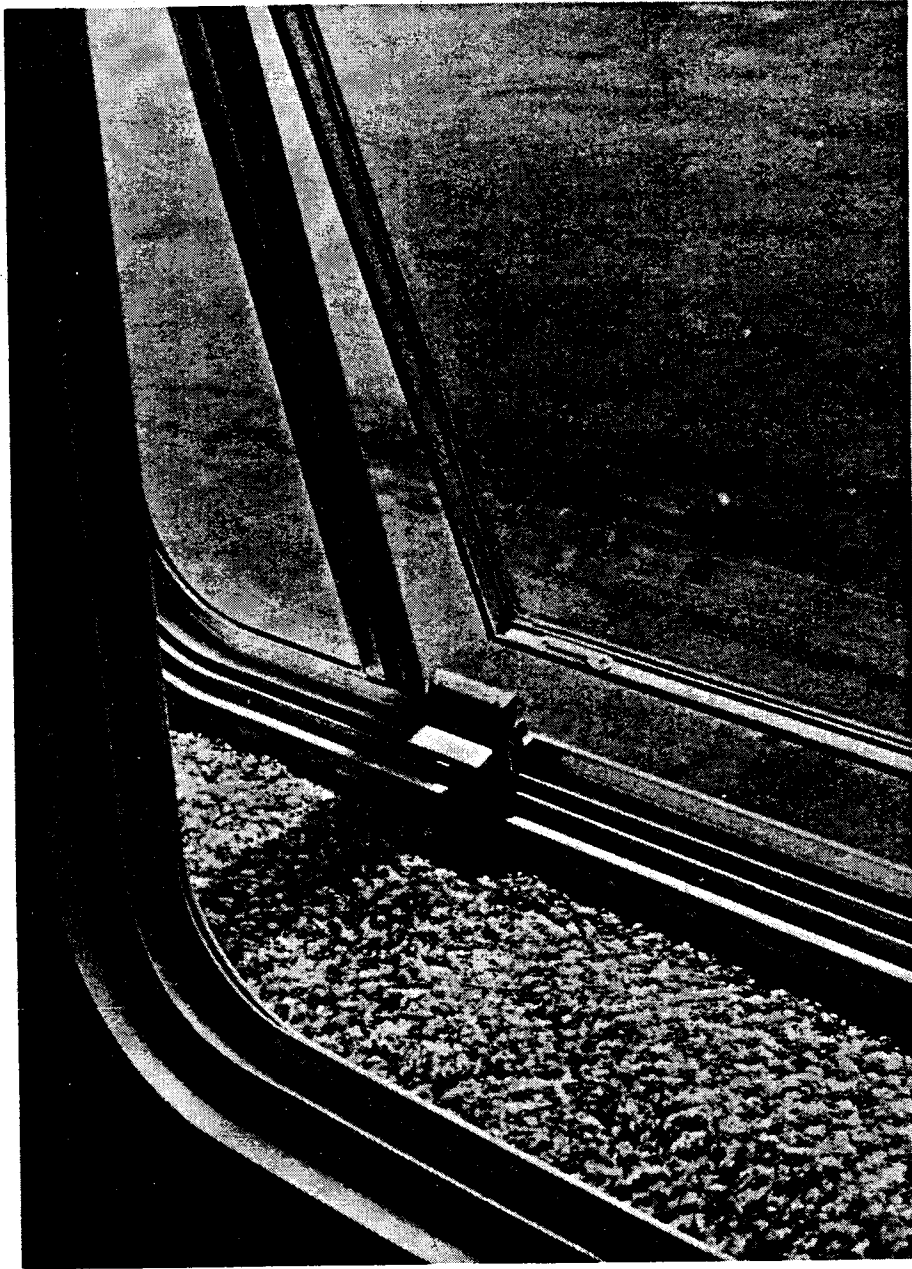

Figure 13-1. Emergency Escape Window
2. **Emergency Escape Window:** See Figure 13-1. The rear window is hinged at the top for emergency exit. To open window, release retaining bars at bottom of window and push outward on the bottom edge. The window will swing out and allow exit.